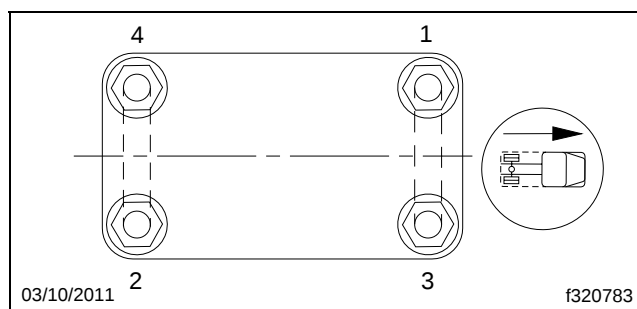

Fig. 5, Tightening Pattern for U-bolt High Nuts
22. Install the U-bolts, flat washers and high nuts. Using the diagonal pattern shown in **Fig. 5**, tighten the high nuts sequentially in four stages as shown in **Table 3**.